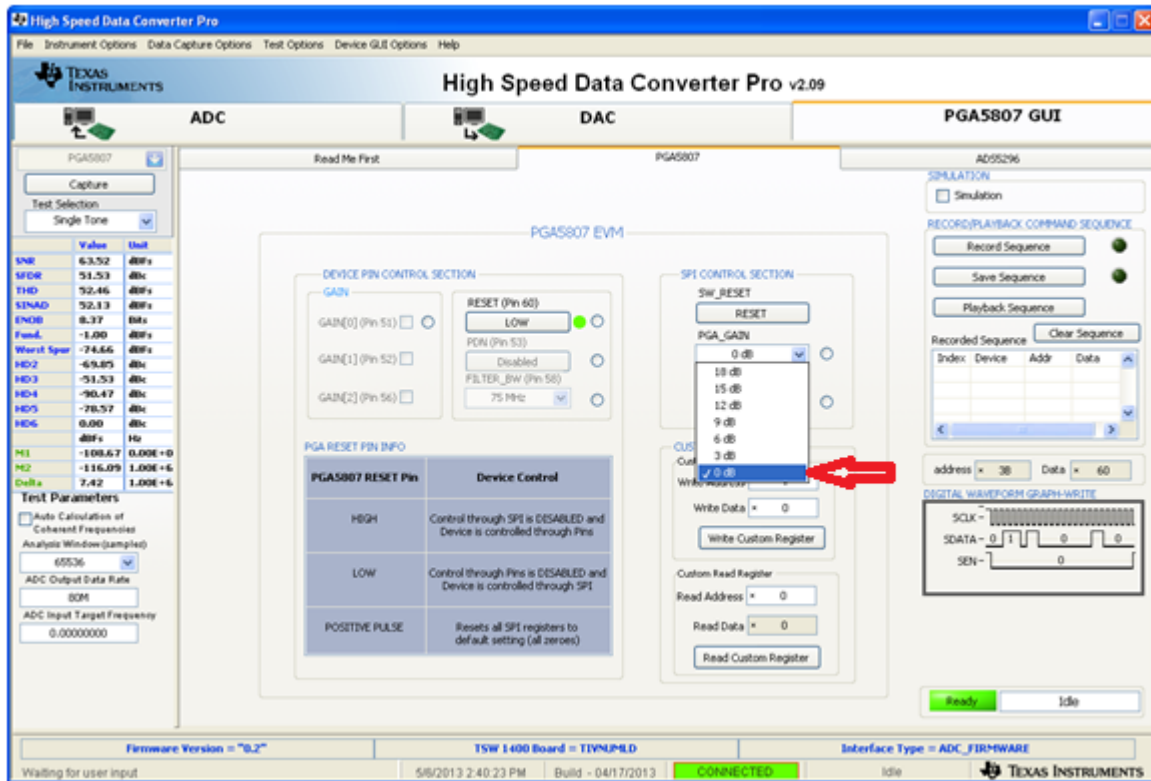

Figure 46. PGA5807 GUI Setup for PGA5807A + ADS5296A SNR, THD, Gain Test 2
- Return to the PGA5807 tab and change the PGA\_GAIN in the SPI CONTROL SECTION to 0 dB as shown in Figure 46.